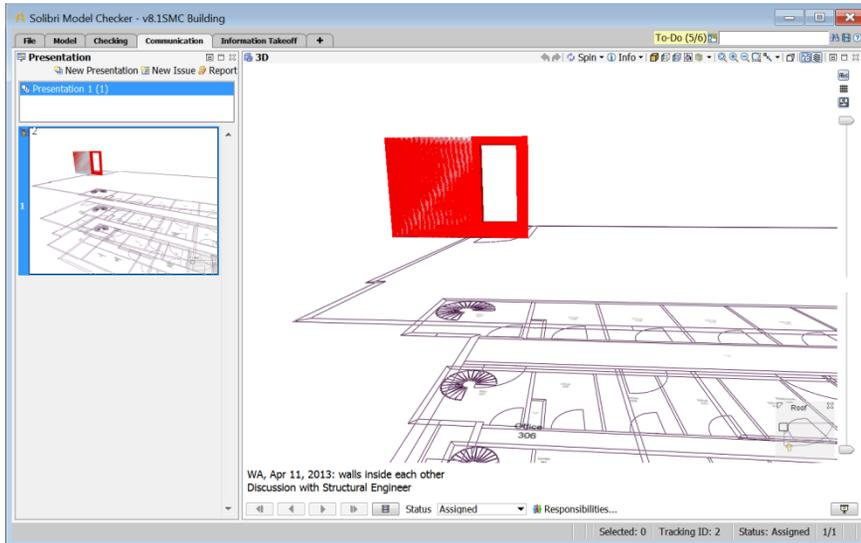

Figure 69 Presentation View
- 3) A new presentation will be created. Click the first slide in the **Presentation View** (see Figure 69) and notice how the **3D View** changes to show the stored viewpoint.